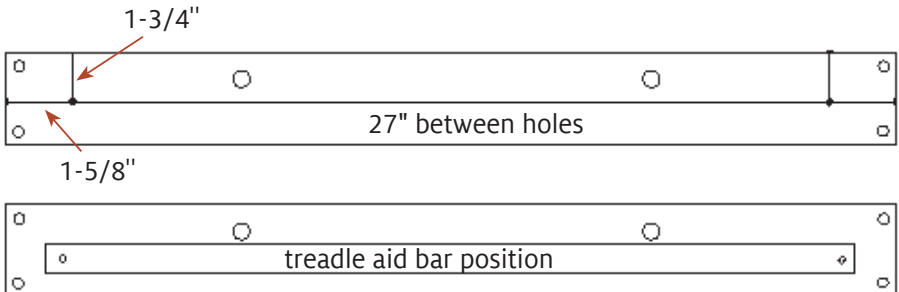

FIGURE 4 - LOCATION OF HOLES FOR TREADLE AID BAR
2. Mark the locations of the holes for the treadle aid bar according to the measurements in figure 4.